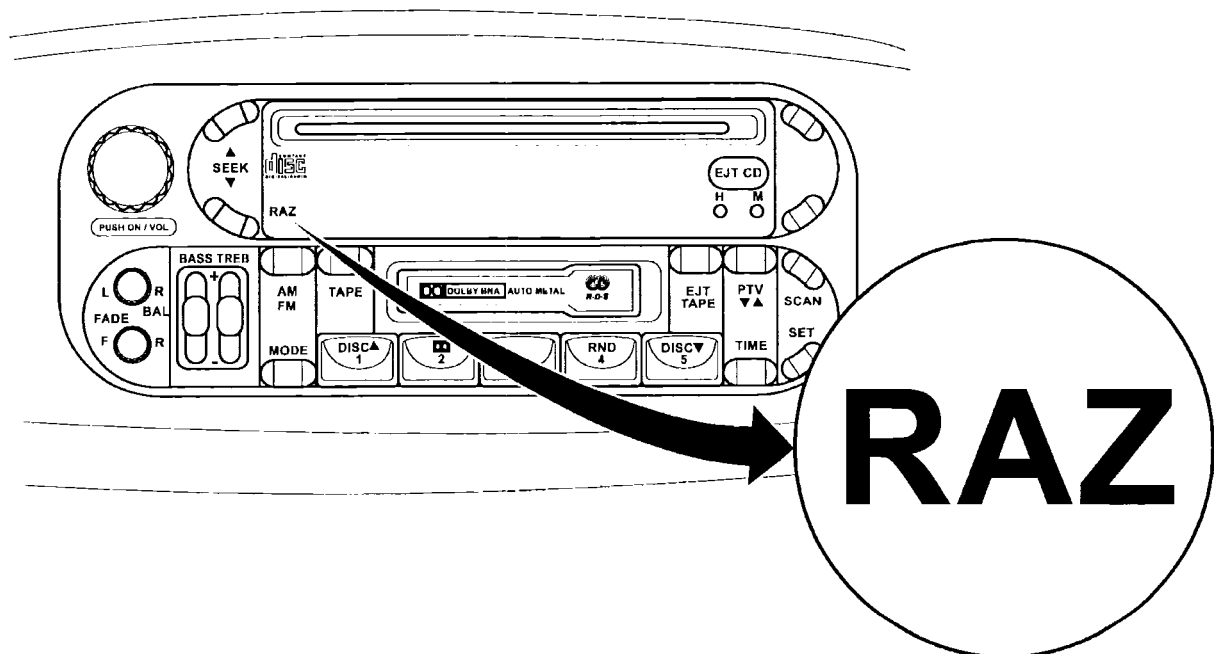

Figure 1 – 2003 Model Year Shown
12. Inspect the radio face plate. The radio sales code is printed on the face of the radio (Figure 1). If the vehicle is equipped with an “RAZ” radio, it must be removed from the instrument panel and completely disconnected to eliminate the possibility of any electronic communication between the radio and the instrument cluster during the flash procedure.